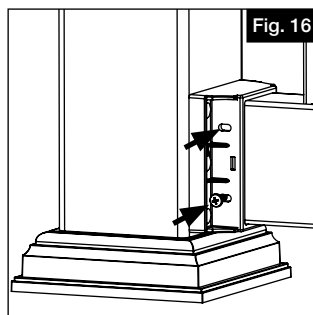

Fig. 16
- Install #10 x 1" screws in all pre-drilled holes (Fig. 16).